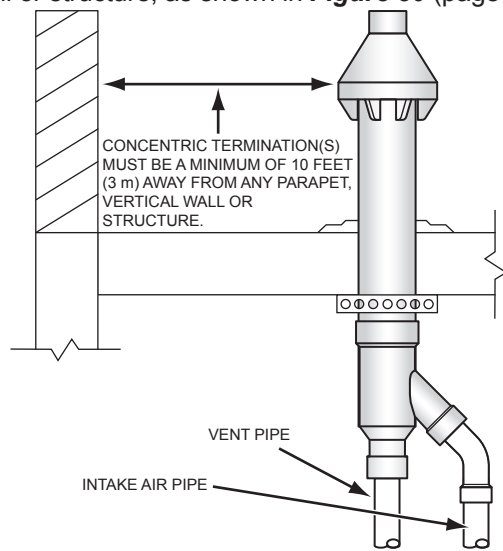

Figure 30. Concentric Termination - Flat Roof Clearance
- When installing a concentric termination vertically through a flat roof, the termination's vent cap must be a minimum of 10 feet (3 m) away from any parapet, vertical wall or structure, as shown in **Figure 30** (page 28).